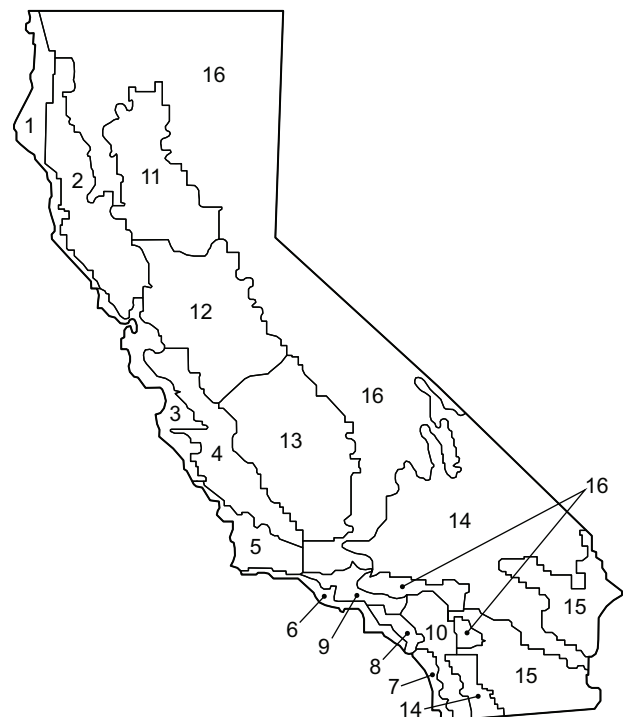

Fig. 69 – California Title 24 Zones
b. See Fig. 69 for map of California Title 24 zones.